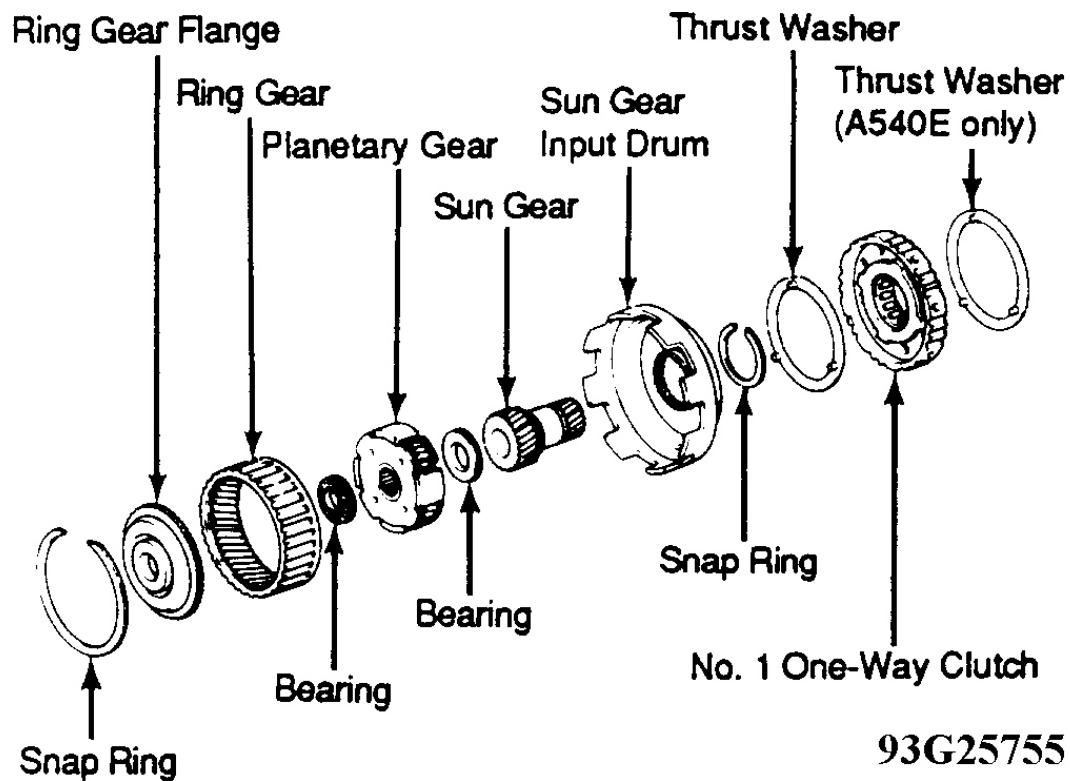

Fig. 24: Exploded View Of Front Planetary Gear
2. Turning hub clockwise, remove one-way clutch from sun gear. Remove thrust washer from sun gear input drum. Remove snap ring. Remove sun gear input drum. See **Fig. 24** .
1. Position flange into ring gear. Using a screwdriver, install snap ring. See **Fig. 24**.